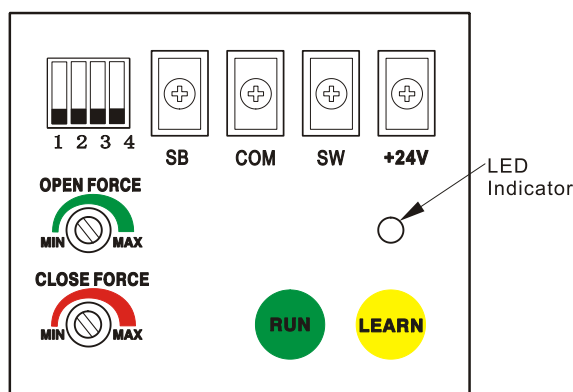

Fig 11
- Press the Green Coloured “Run” Button located on the Rear Cover of the AGDO. (Fig.11)
- c. **LED Indicator (Fig 11) will glow solid once the AGDO reaches the Close Limit position.**
- c. LED Indicator (Fig 11) will slow flash once the AGDO reaches the Open Limit position.
- Locate the Learn button (Fig 11) found on the rear cover of the AGDO.
- With the garage door in the **fully closed** position - press the green Run button (Fig.11) so that the garage door begins to open.
- As the garage door is opening - slowly turn the Open Force (green) adjustment pin (Fig.11) in an anti-clockwise direction until the garage door stops.
- Press the green “Run” button (Fig.11) so that the garage door begins to open.
- With the garage door in the **fully open** position, press the Run button (Fig.11) so that the garage door begins to close.
- As the garage door is closing - slowly turn the Close Force (red) adjustment pin (Fig.11) in an anti-clockwise direction until the garage door stops and begins to reverse direction.
- If the AGDO stops but does not reverse then turn the Close Force (red) adjustment pin 5 degrees in an anti-clockwise direction. (Fig 11)
- ii. momentarily press “Learn” button (Fig.11) – LED Indicator will glow solid
- Select Dips 1 & 2 to the “ON” position. (Fig.11)
- The Dip Switches located within the back cover of the AGDO (Fig.11) enable or disable specific functionality.
- The Learn button (Fig 11) is located on the rear cover of the AGDO and serves to initiate the functions as described in the following table;
- The LED Indicator (Fig 11) is located on the rear cover of the AGDO and serves to provide visual indication of functionality sequences as described in the following table;
- 4 Output Terminals (Fig.11) are provided within the back cover of the AGDO to support the connection of the following accessories;